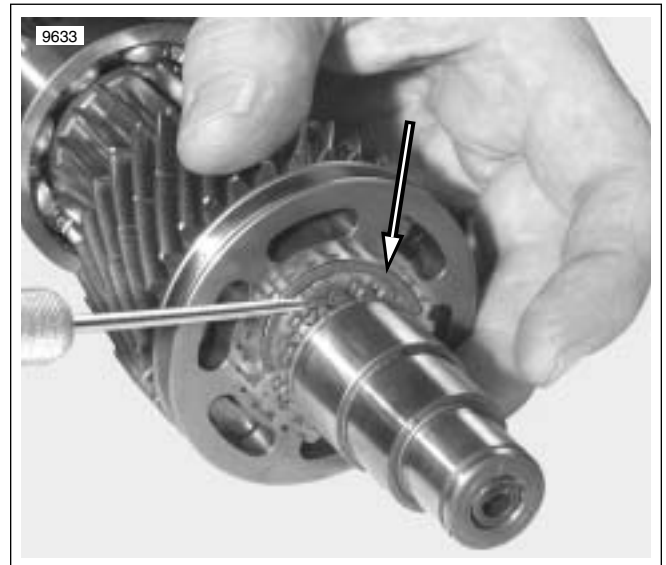

Figure 7-44. Half Moon Keepers
7. See Figure 7-44. Remove half moon keepers.